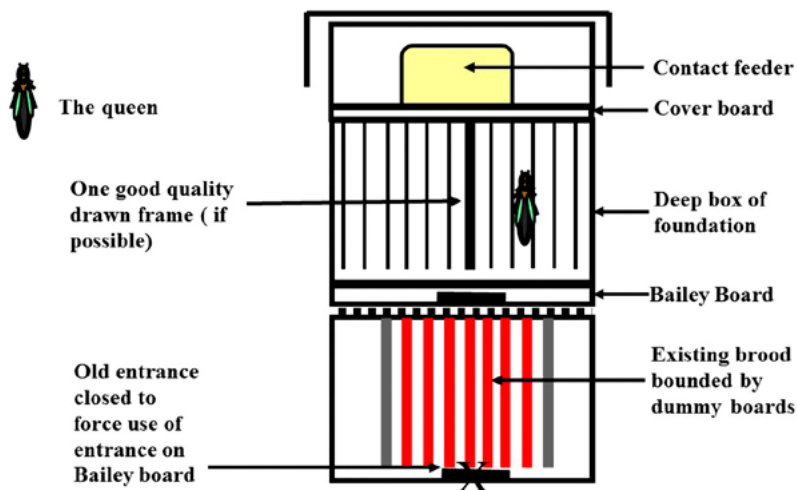

Figure 7: The Bailey comb change
2. **The Bailey Comb Change:** this enables a complete new box of frames to be drawn so that most or all of the existing brood combs can be removed (see **Figure 7**). As with the Demaree method, all the existing brood is permitted to emerge and join the colony.